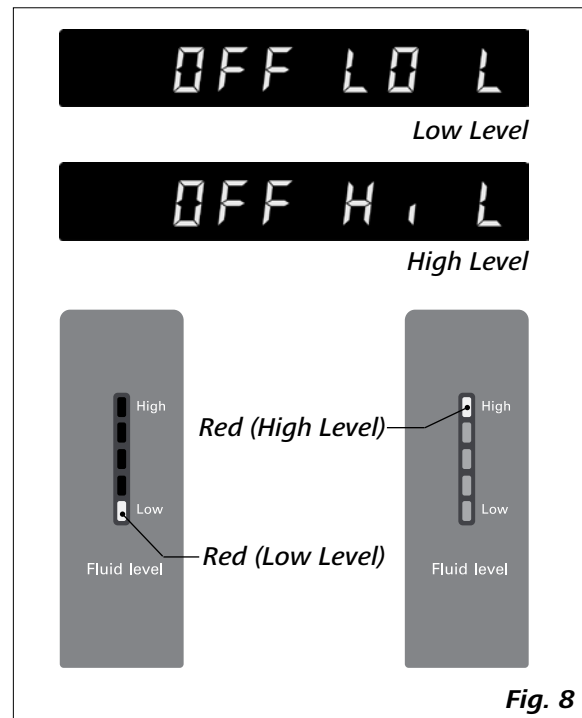

**Fig. 7**
- Check and make sure that the drain valve is closed (the stop position in clockwise direction, see **Fig. 7**).